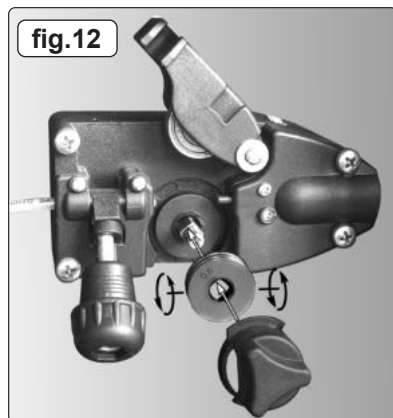

fig.12
- 6.5.2. Pull the roller off the drive spindle, flip it over and put it back on the drive spindle. (See fig 12) The groove size you require should now be visible on the face of the roller. Push the roller retainer back onto the drive spindle with the opening facing left. Ensure that the flanges at the base of the retainer, seat fully into the circular recess in the main moulding and then rotate the retainer through 90° to lock it in place.